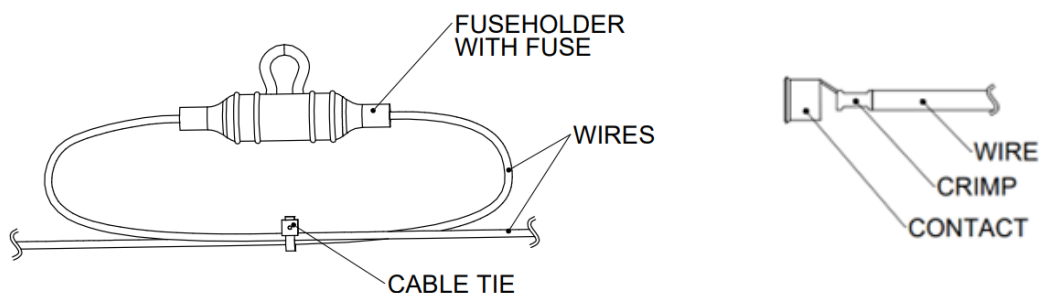

Figure 20: HFB Fuse Holder Installation
8. Loop the wires as shown in **Figure 20: HFB Fuse Holder Installation** and secure both wires together with a cable tie as shown.